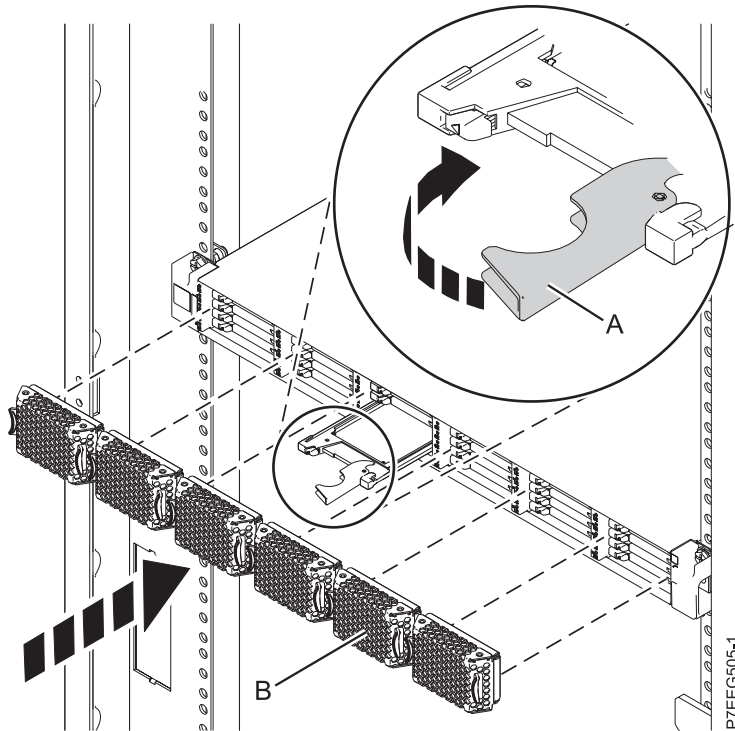

Figure 23. Replacing a solid-state drive in the 58/88 PCIe storage enclosure.
- When the solid-state drive identify LED flashes, slide the solid-state drive all the way into the 58/88 PCIe storage enclosure until it is fully seated. Then rotate the handle (A) to the locked position. See Figure 23.
- Install the bezel (B).